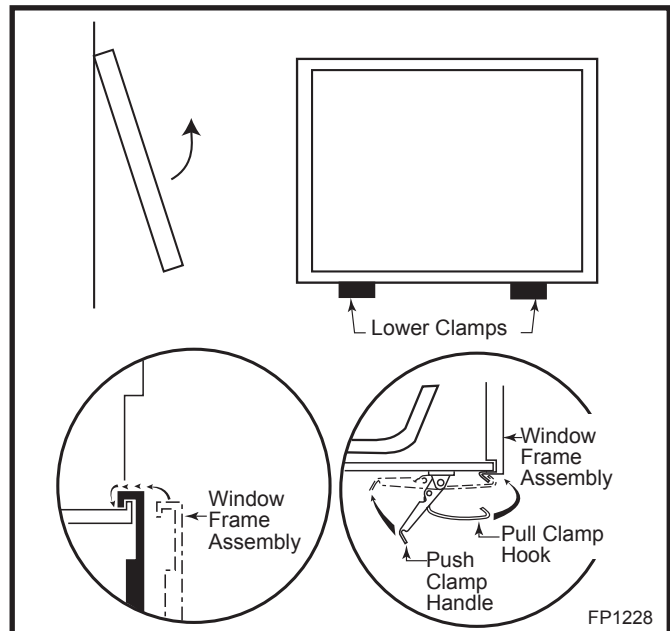

Fig. 62 Window frame assembly removal.
5. Release the two clamps securing the lower edge of the window frame assembly by pulling down on the handles. (Fig. 62)
Separate the ember material into small pieces, roughly 1/2" in diameter and place on the front burner tube. Do NOT pack down, leave in fluffy, loose condition for most realistic ember effect. (Fig. 62)